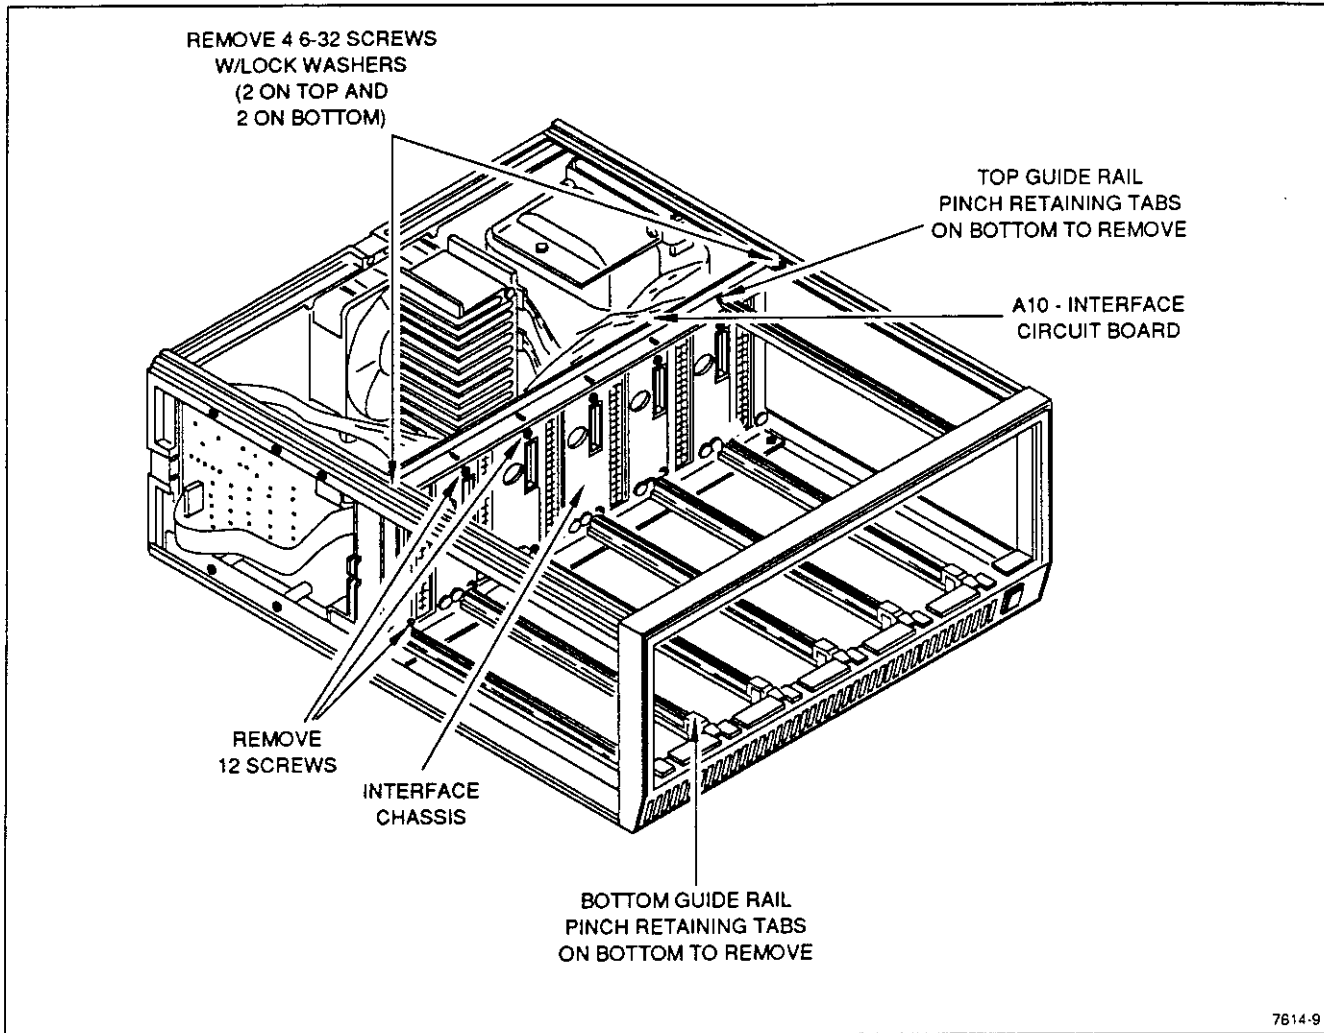

Fig. 5-2. Guide rail removal.
a. Remove the top and bottom guide rails as shown in Figure 5-2.
b. Remove the 12 screws that secure the Interface circuit board to the interface chassis as shown in Figure 5-2.
c. Remove the 4 screws (with lockwashers) that secure the Interface chassis to the frame rails as shown in Figure 5-2.